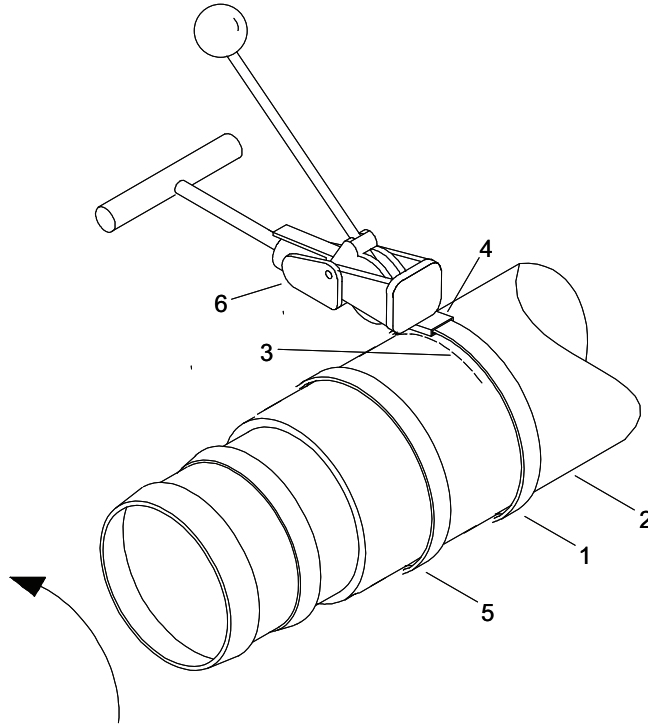

Figure 11. Hose Assembly Repair.
28. Position a clamp (Figure 11, Item 1) on the hose assembly (Figure 11, Item 2) until it is aligned with the second mark (Figure 11, Item 3) previously made on the hose assembly (Figure 11, Item 2).
29. Rotate the hose assembly (Figure 11, Item 2) until clamp buckle (Figure 11, Item 4) on the clamp (Figure 11, Item 1) is oriented a minimum of 30 degrees away from the clamp buckle on the first clamp (Figure 11, Item 5).
30. Using clamping tool (Figure 11, Item 6) procedure steps 22-27 to install clamp (Figure 11, Item 1), on hose assembly (Figure 11, Item 2).